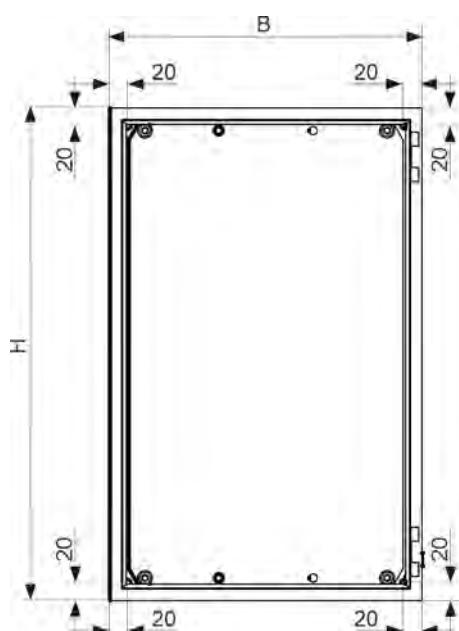

Fig. 6: Wall mounting: DryExx® control unit
When installing on a mounting frame, attach the welding bolts supplied with the equipment to the intended surface as specified in Fig. 6 .
- 1.** Prepare the mounting equipment as specified in Fig. 6 .